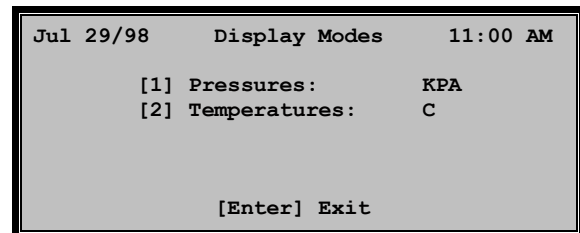

Figure 2-47
- (b) The DISPLAY screen (Figure 2-47) will be displayed.